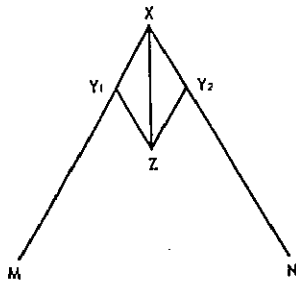

Figure 1D
Information for items 1-39 through 1-42: Assume that figure 1D is a parallelogram of forces diagram for computing the forces acting on the legs of a shear leg rig.
1-39. What does line XZ in figure 1D represent?
1-40. The angle MXN shown in figure 1D represents the angle formed by the
Information for items 1-41 and 1-42: Assume that figure 1D is a parallelogram of forces diagram for computing the forces acting on the back guys of a shear leg hoist.
1-41. Line XZ shown in figure 1D represents the
1-42. Line XY2 shown in figure 1D represents the